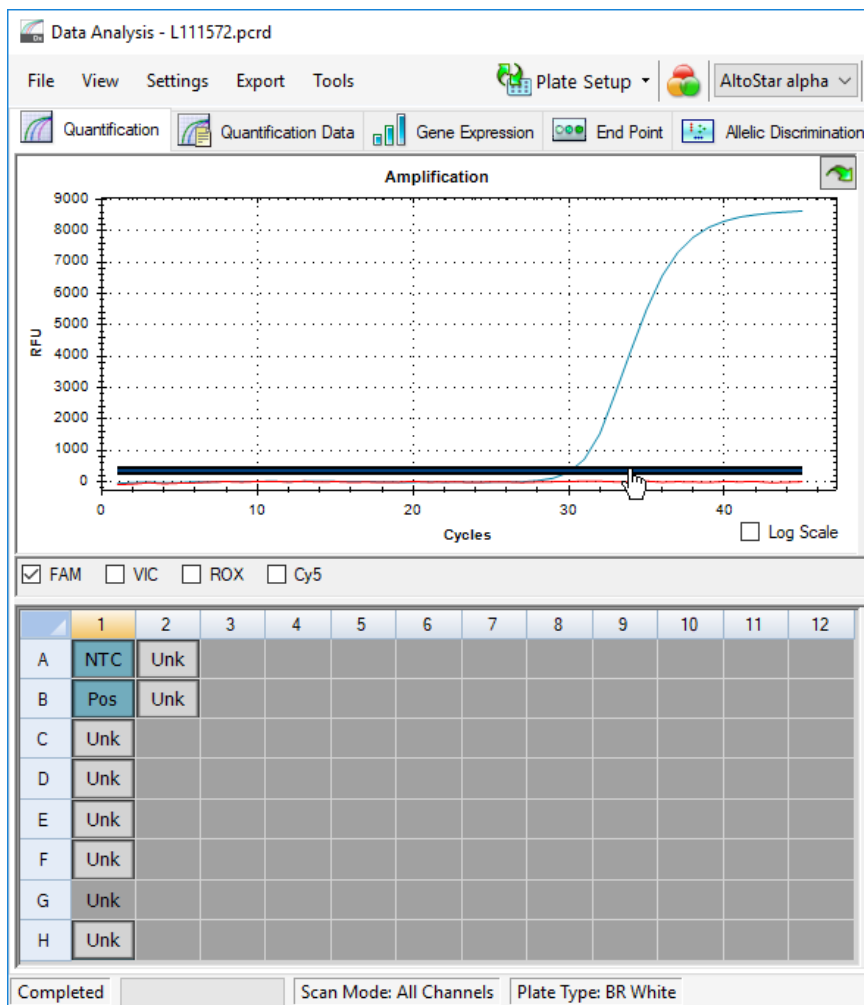

Figure 10: Data Analysis window: setting the FAM™ threshold
5. At the left side of the Data Analysis window untick the **VIC** checkbox and tick the **FAM** checkbox for the detection channel of the VZV target (see figure 10).
6. Select only the wells containing the NTC and the PC in the plate view of the Data Analysis window (see figure 10).
7. Drag the threshold well above the signal of the NTC into the exponential area of the PC signal (see figure 10).